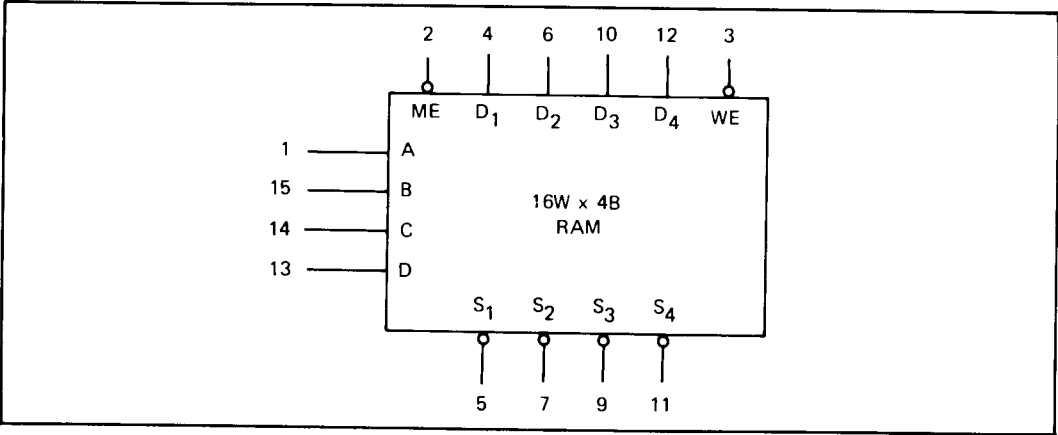

Figure 4-6. Random-Access-Memory (RAM) A5U14
4-39. The 64-bit random-access-memory (RAM) symbol is shown in Figure 4-6. The RAM is organized 16 words by 4 bits. Four address lines are buffered and decoded for word selection. When the RAM receives a low at the memory enable (ME) input, the binary address (A through D) is coded to select 1 of 16 four-bit words. If the write enable (WE) is low, the data present on the data input lines (D₁ through D₄) is written into the four bits of the selected word. There is inversion of logic levels through the RAM in a read operation.